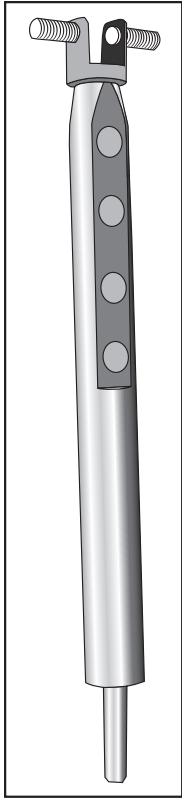

Figure 6.3.1A: The BTE Rotating Shaft and Positioning Saddle
The BTE Rotating Shaft, shown in Figure 6.3.1A with the attached Positioning Saddle, is used for testing BTE and over-the-ear-style Open Fit directional hearing aids.
1. Place the Positioning Saddle on the top of the shaft as shown in Figure 6.3.1A. The two thumb screws of the saddle should be positioned to either side of the flat surface on the shaft. (A removable paper shim keeps the hearing aid body from being scratched during positioning.)